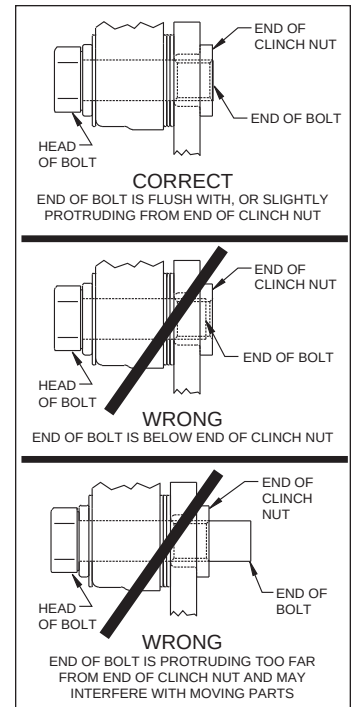

Figure 5. Clinch Nut Engagement Diagram
CAUTION: All mounting bolts must fully engage clinch nuts. Be sure to check that all bolts are either flush or protruding through flanged side of clinch nut after shimming, Figure 5.
•**NOTE:** Please reference the caution statement at the beginning of the assembly instructions. Remount the service caliper (12) onto the caliper mounting bracket (3) using bolts (13) and washers (14), as shown in Figure 1. Initially place two .035" thick shims (15) on each bolt between the caliper and the bracket, Photo 9. Temporarily tighten the mounting bolts and view the rotor (11) through the top opening of the caliper. The rotor should be centered in the caliper, Photo 10. If not, adjust by adding or subtracting shims (15) between the bracket (3) and the caliper (12). Always use the same amount of shims on each of the two mounting bolts. **NOTE:** The end of each bolt must be flush with or slightly protruding from the head of the clinch nut, as shown in Figure 5. If necessary place spare shims (15) between washer (14) and caliper (12) mounting ear to achieve the proper clinch nut engagement. Once the caliper alignment and clinch nut engagement are correct, remove the bolts (13) one at a time, apply red *Loctite*® 271 to bolt threads, and torque to 40 ft-lb.